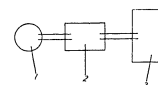

FIG 2
3. For calibrating millivoltmeters, connect as shown in Fig. 2